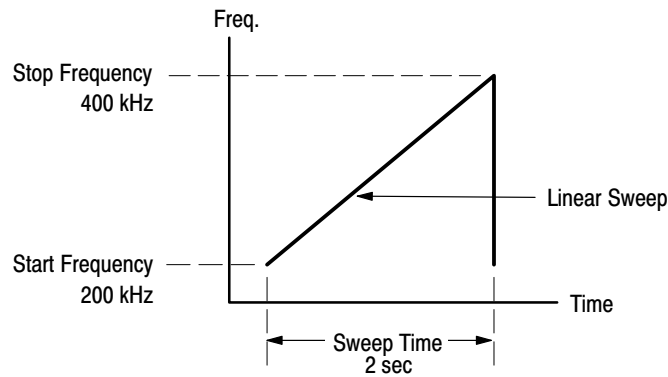

Figure 2–20: Setup for Sweep Parameters
1. Connect the instrument to an oscilloscope using a 50 Ω cable with a 50 Ω termination as shown in Figure 2–21. The instrument is calibrated for waveform output to a 50 Ω load.